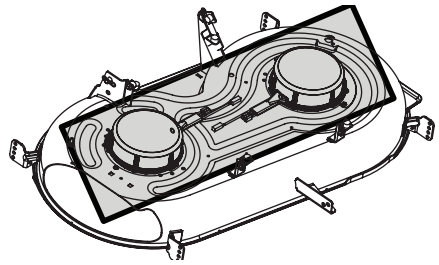

Figure 15
- Clean the top of the tractor deck (Figure 15).